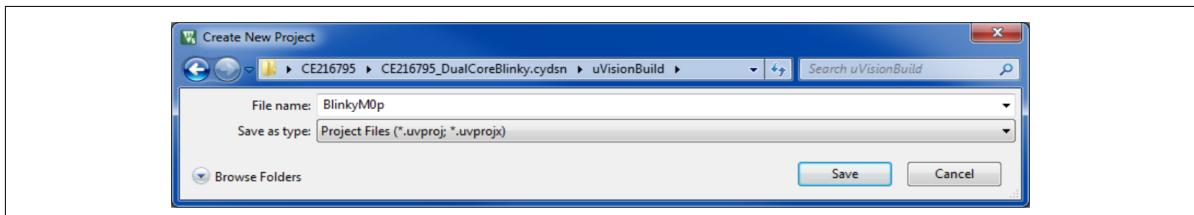

Figure 417 Create a µVision project for CM0+
Recommended: name the project based on the original PSoC™ Creator project name and the target CPU. For example, for the CE216795 dual-core blinky project, create a µVision project `BlinkyM0p` for the CM0+ CPU, as Figure 417 shows:
Recommended: name the project based on the original PSoC™ Creator project name and the target CPU. For example, for the CE216795 dual-core blinky project, create μVision project **BlinkyM4p**; see Figure 417. Configure the project in the same manner as the CM0+ project, with the following differences:
- The CM4 project must be in the same folder as the CM0+ project; in this case, **μVisionBuild**. See Figure 417